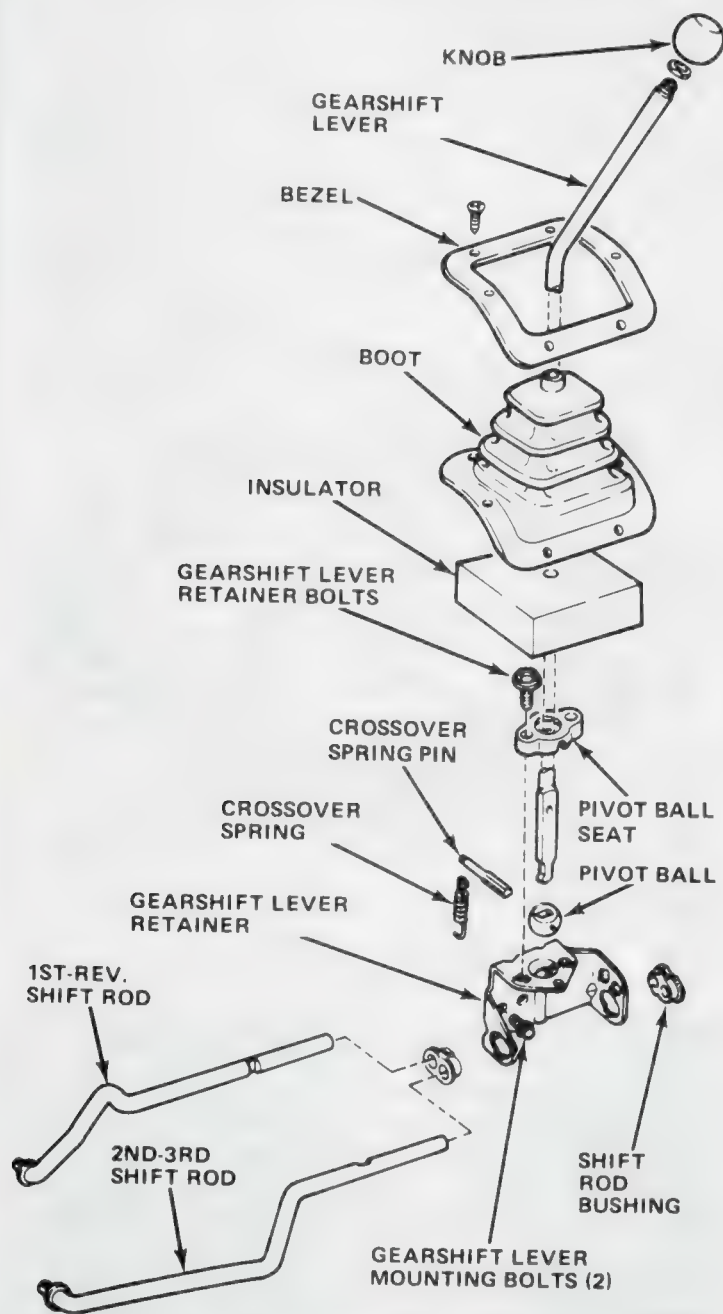

Fig. 2B-3 Gearshift Linkage—Model 150T
(1) Remove gearshift lever knob, bezel, boot and insulator (fig. 2B-3).
(2) Remove gearshift lever retainer bolts, unhook crossover spring and remove gearshift lever and crossover spring.
(3) Raise car on hoist.
(4) Disconnect shift rods at transmission shifter levers.
(5) Slide shift rods forward and out of bushings in gearshift lever retainer.
(6) Remove gearshift lever retainer mounting bolts and remove retainer.
- (1) Remove transmission shifter levers from shift fork shafts (fig. 2B-4).
- (2) Remove lower extension housing bolt (fig. 2B-5) and drain transmission lubricant from case.
- (3) Remove top cover and gasket.
- (4) Remove TCS switch from left side of case, if equipped, and remove backup light switch from left side of extension housing (fig. 2B-4).
- (5) Remove long detent spring from case detent bore (fig. 2B-4).
- (6) Remove upper detent plug from detent bore with magnet or tip case on side and allow plug to fall out. Do not lose plug.
- (7) Remove extension housing and gasket.
- (8) Remove speedometer drive gear retaining snap ring from output shaft and remove gear and lock ball.